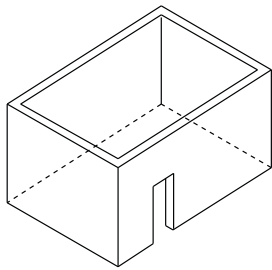

Fig. 01d - Enclosure with walls on all sides but no overhead cover.
- An enclosure with walls on all sides, but at least one permanent opening at ground level and no overhead cover. See Fig. 01d.